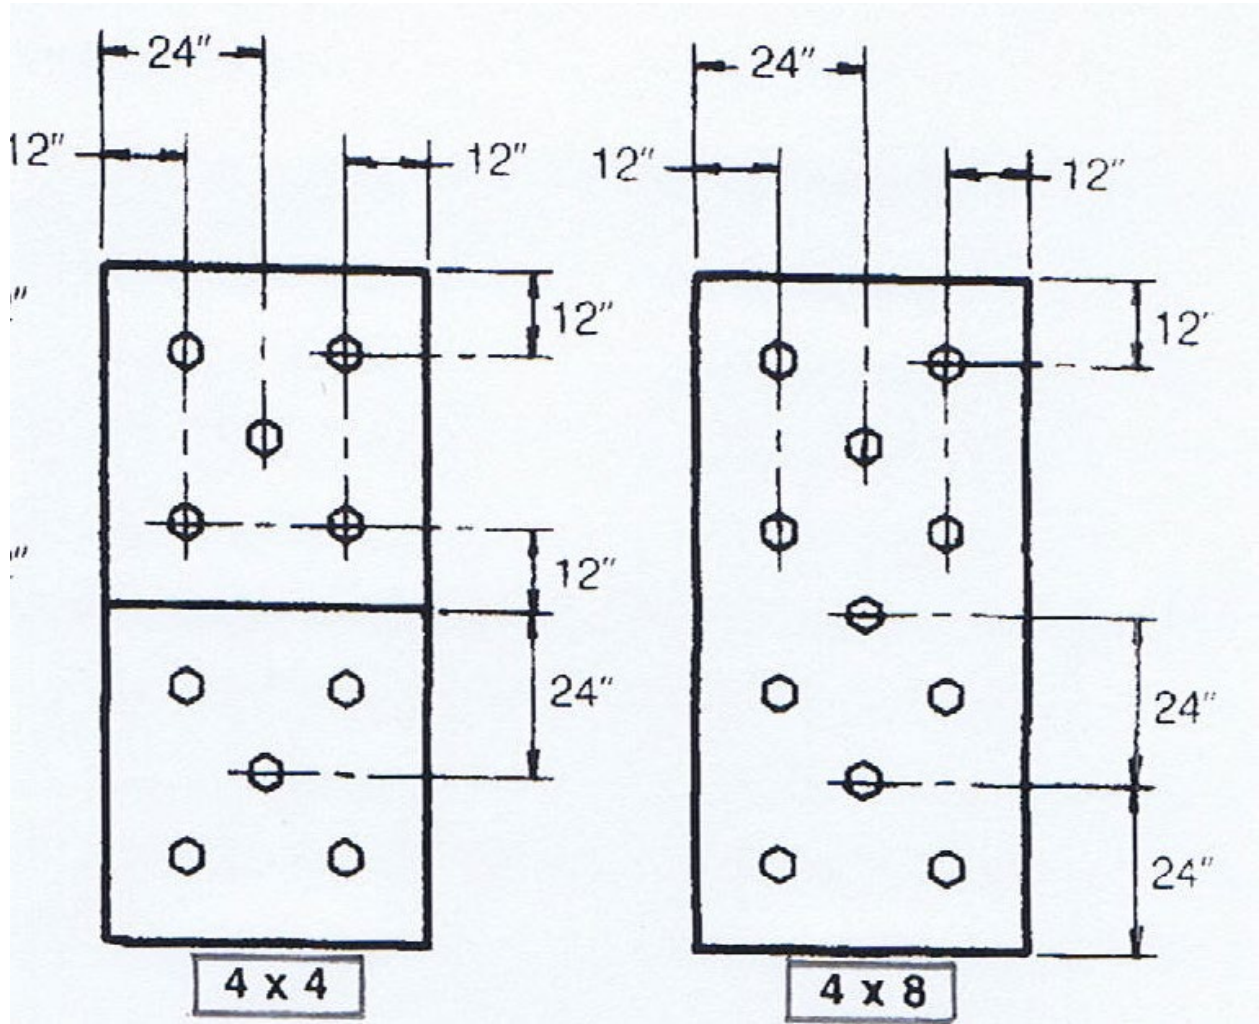

Figure 1. Insulation Fastening Patterns
Insulation: 2" rigid insulation, H-Shield by Hunter Panels. Installed over the steel deck. Secured to the steel deck with Dekfast No. 14 x 4-1/2" long insulation deck fasteners and Dekfast steel stress insulation plates. The insulation plates are 2-7/8" across the plate and can be hexagonal, square, or circular. Use minimum of five (5) fasteners per 4x4 ft board or ten (10) fasteners per 4x8 ft board. The fasteners must have a minimum penetration of 5 threads through the bottom of the deck. Refer to Figure 1 for insulation fastening patterns.